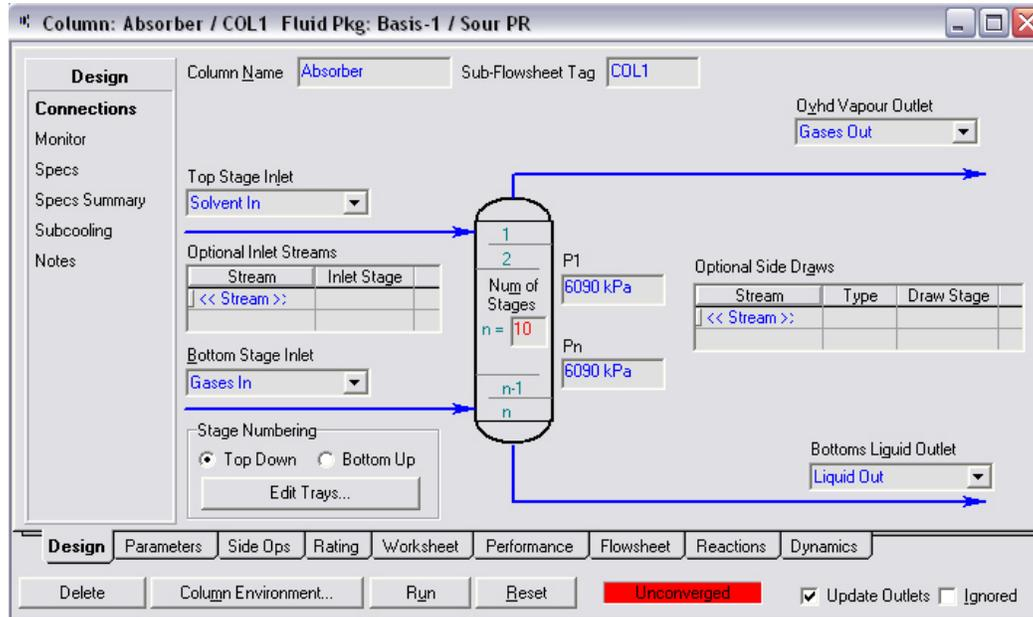

Figure 11-4
- By clicking on the done button, HYSYS will bring up a window as shown in Figure 11-4.
When the column window as shown in Figure 11-4 pops up, click on the **Run** button located near the bottom of the window. The red **Unconverged** box should turn to green **Converged** if all the above procedure was followed. However, the results that are obtained at this point do not represent a true model for our gas absorption column because the simulation was run using trays, not packing. Now, let's see how to replace trays with packing.